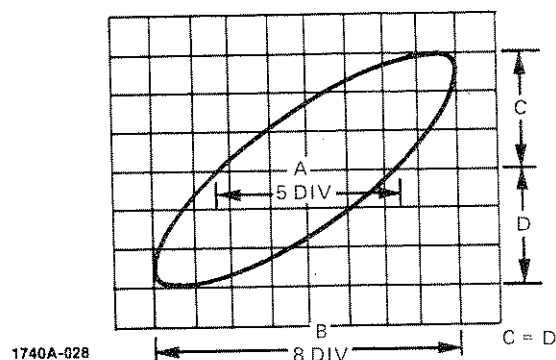

Figure 22a. A VS B Phase Measurement
4. Measure distances A and B as shown in figure 22a. A is the distance intersected by the trace on the
Example: In figure 22a, A equals five divisions and B equals eight divisions. Distance C is equal to distance D. The sine of the phase difference (θ) is A/B , which is 0.625.